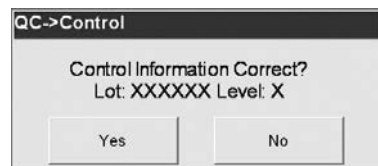

Fig. 4-16 Confirm Lot Number
5. Press if the lot number is correct (Fig. 4-16).